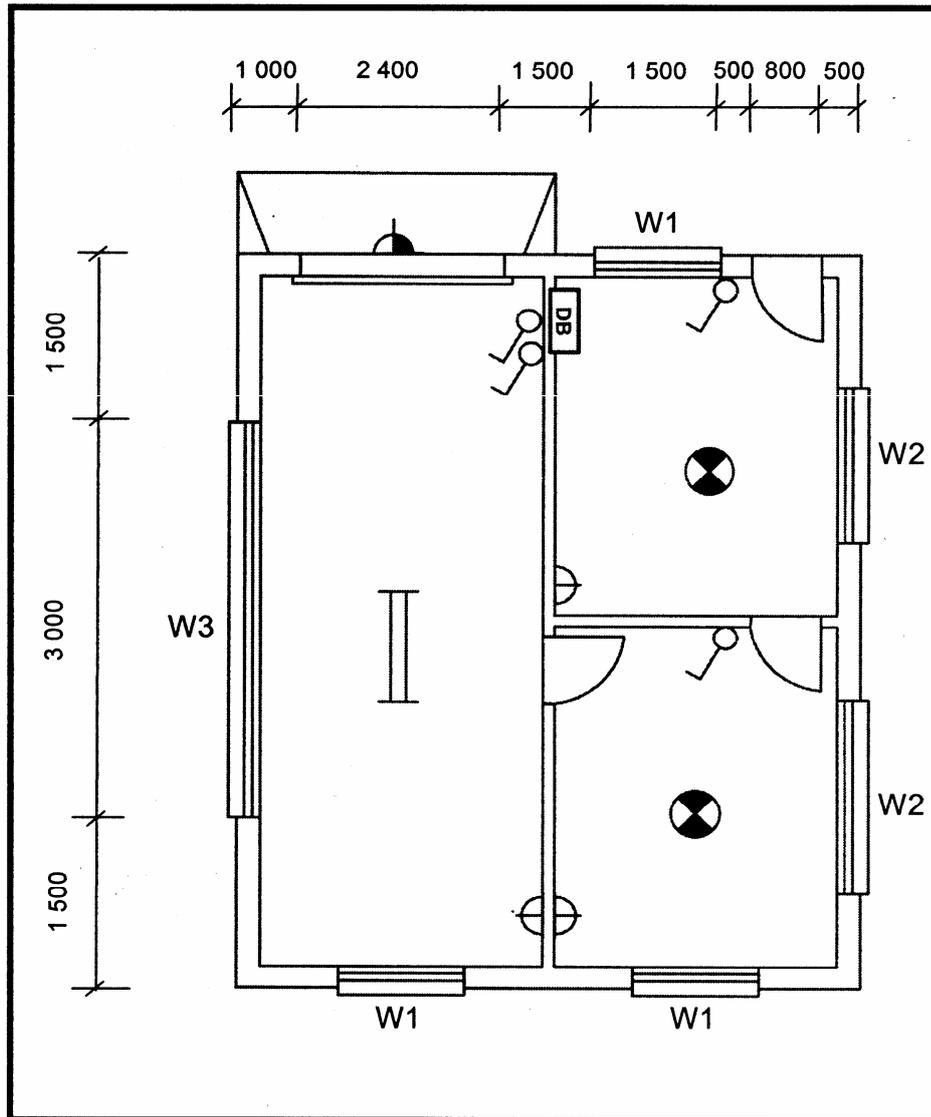

FIGURE 6.1
- 6.1 FIGURE 6.1 (next page) shows the floor plan of a proposed building. Draw to scale 1:50 on ANSWER SHEET 6.1 the NORTH ELEVATION of the building. This building has a gabled roof with a pitch of 30°.